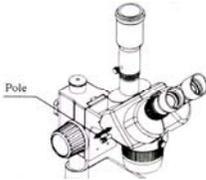

Fig.4
- (1) You can alternate the binocular observation and video capture by pushing or pulling" the pole" .You can attain binocular observation by pushing "the pole" inside, or attain video capture by pulling it outside.(Fig.4)